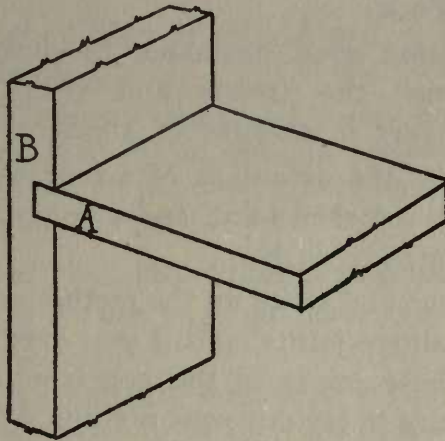

Fig. 37.
A dado is a rectangular groove cut across the grain of a board (Fig. 37) into which another member is fitted.
1. If the dado is a wide one, mechanics often tack or clamp a piece of wood across the board B (See Fig. 37) so that when the saw is pressed against the piece, it will cut just to the center of the knife line. Ask some good mechanic to show you how he does this.